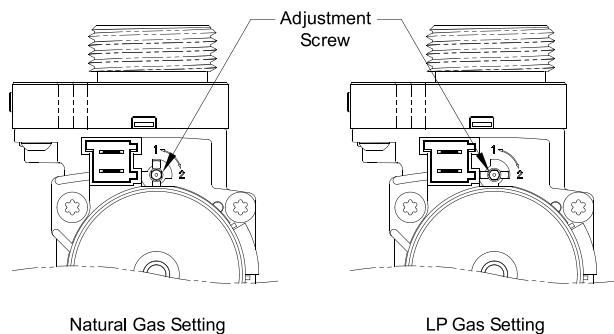

Figure 6-3: Gas Valve Fuel Setting
1. Use 2.5 mm hex wrench to adjust gas valve setting from "1" to "2" (Figure 6-3). For easy access to gas valve remove left side panel using (2) Phillips screws. (136 combi only)